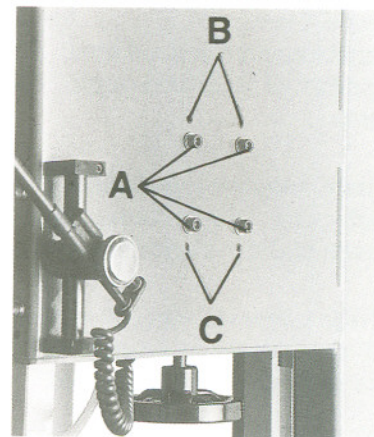

Figure 7
1. Slightly loosen all four hex cap screws (A, Fig. 7) found at the rear of the machine at the top.
2. Tighten two top set screws (B, Fig. 7) slightly to shift blade toward the front. Conversely, tighten two set screws (C, Fig. 7) to shift blade toward the rear. Once blade is tracking properly, slightly tighten other two set screws and then tighten all four hex cap screws.